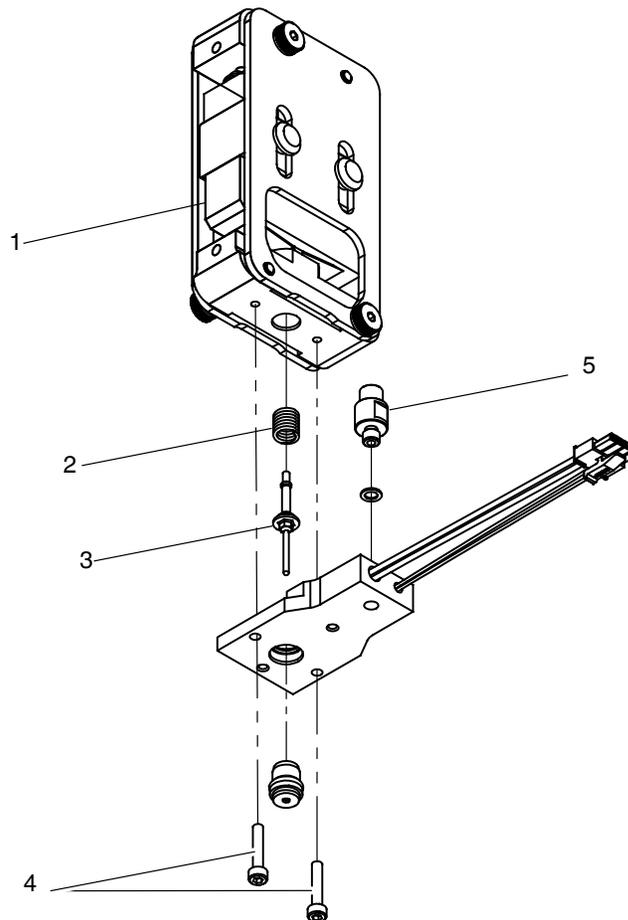

Figure 7-8 Applicator Needle Removal
3. Remove the Luer lock (5, Figure 7-8) from the heater block and clean it using a hot air knife or a probe.